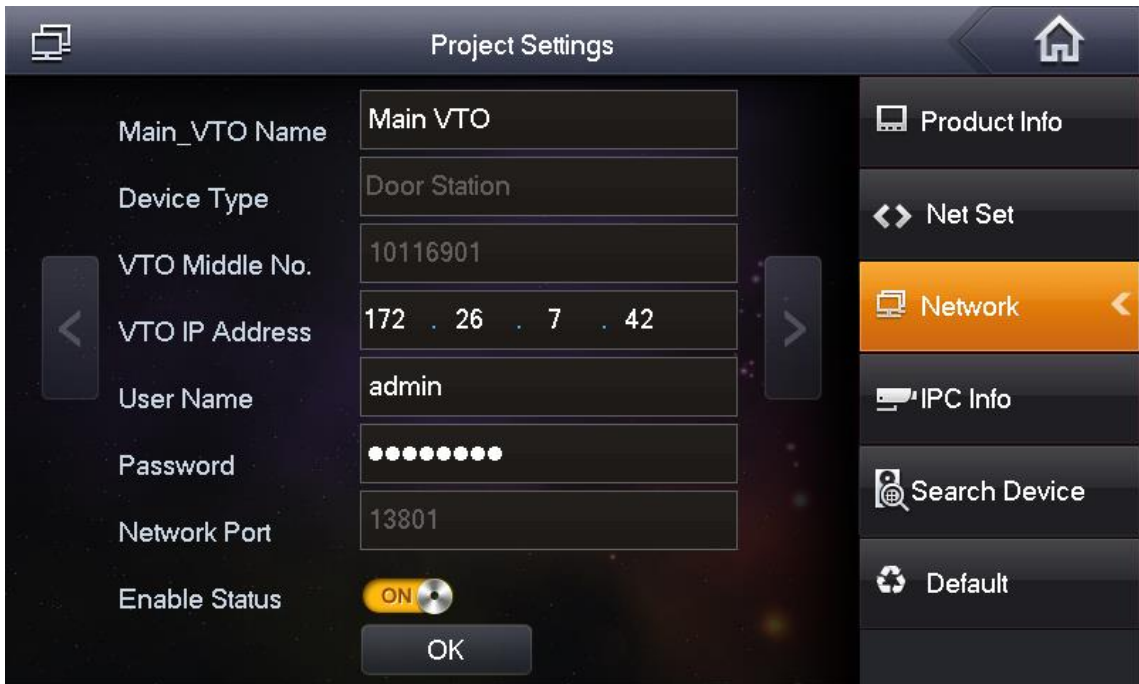

Figure 5-12
The system displays “Network” interface, as shown in Figure 5-12.
1. In Figure 5-12, enter main VTO name, IP address, “Username” and “Password”.